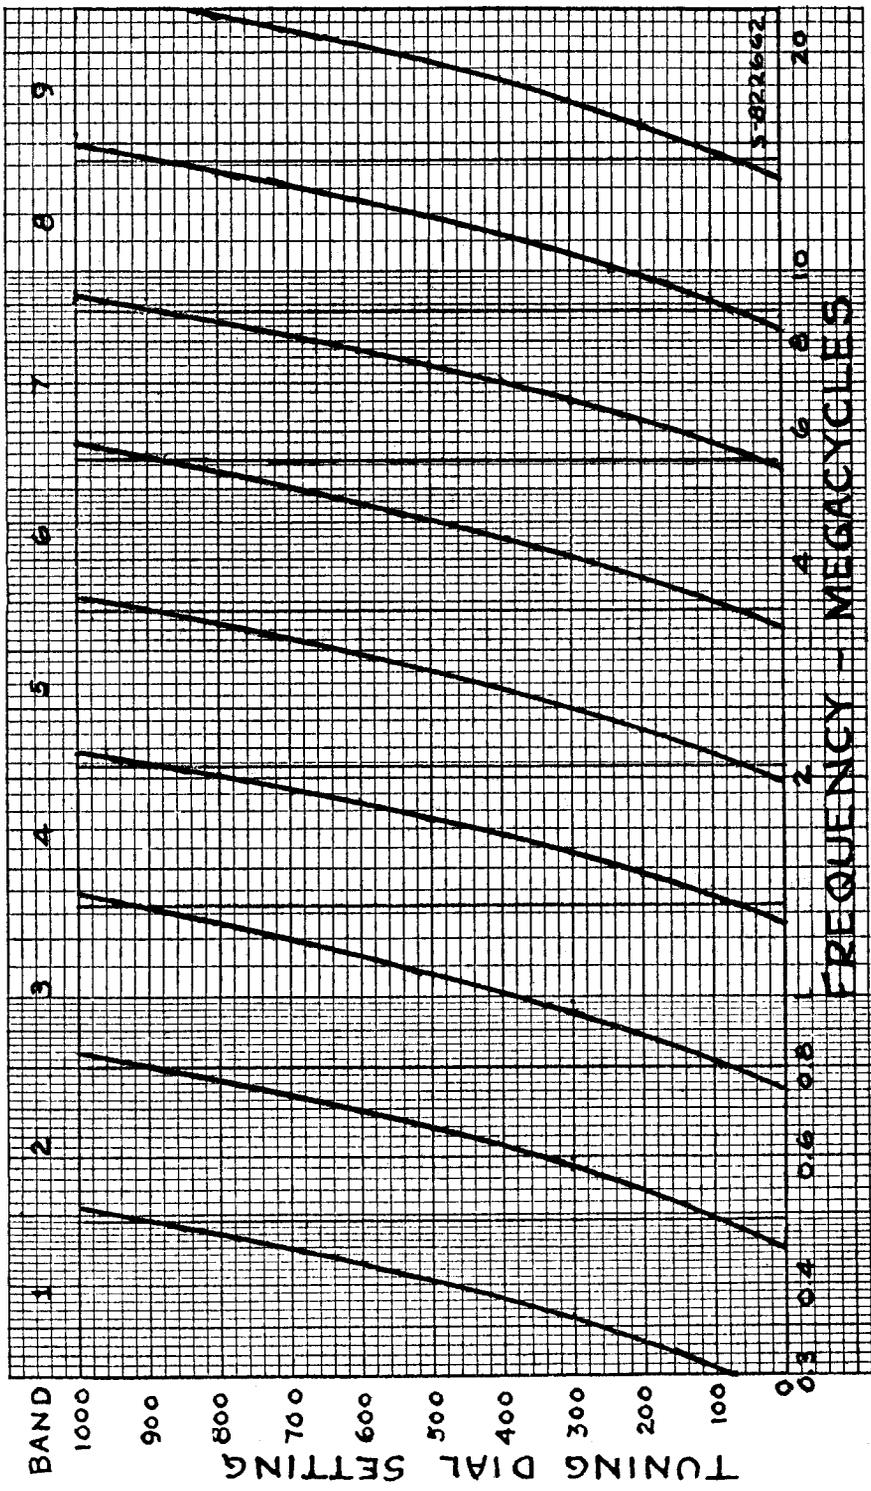

Figure 13—Average Frequency Calibration Curves
11.4-1 Figure 13 shows average frequency calibration curves and band coverage of this equipment. Table B gives the nominal frequency range of each band.